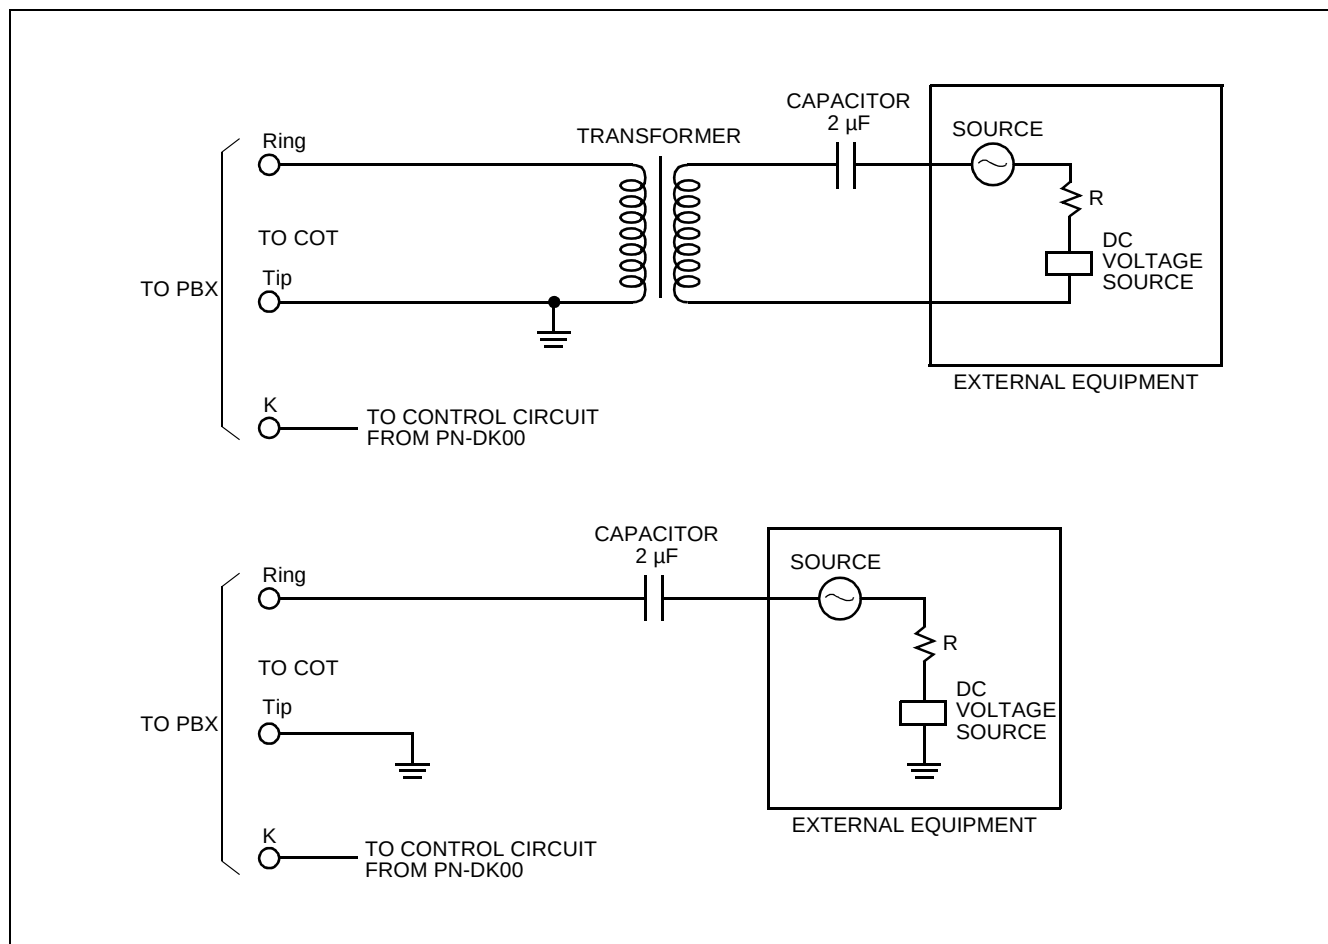

Figure 007-27 Connecting Tone Source Supplied with D.C.
- If a D.C. voltage is supplied with the tone from the external tone source equipment, a transformer or coupling capacitor should be used as shown in Figure 007-27.